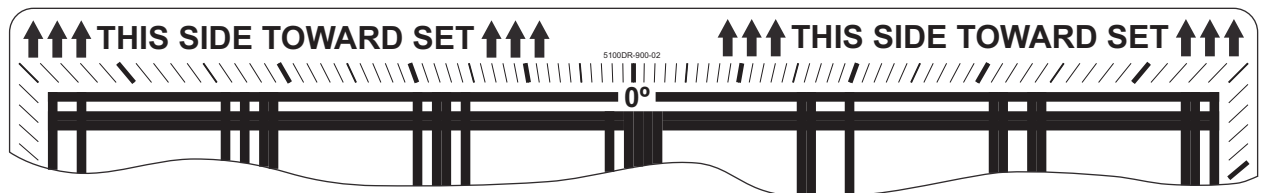

Figure 1 - CamBot Target - Must be Square to the Set, with the 0° Side Facing Toward the Set
- Around the base of the pedestal, metal strips called “cable kickers” ensure that when the pedestal moves across the studio floor, it pushes cables aside rather than running over them. **Figure 1 on page 2–10** shows the cable kickers.
3. Position the **0° side** of the target toward the set (see **Figure 1**).